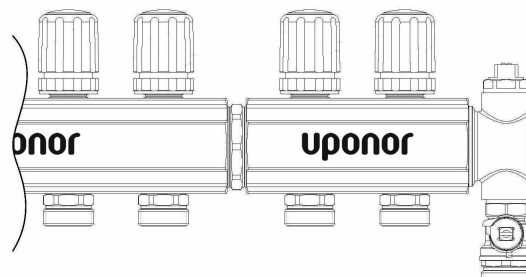

Figure 3
3. Spin the extension kit body into the manifold body until the o-ring disappears. There is now one full turn left to orient the extension kit body so it lines up with the manifold. (See **Figure 3**.)